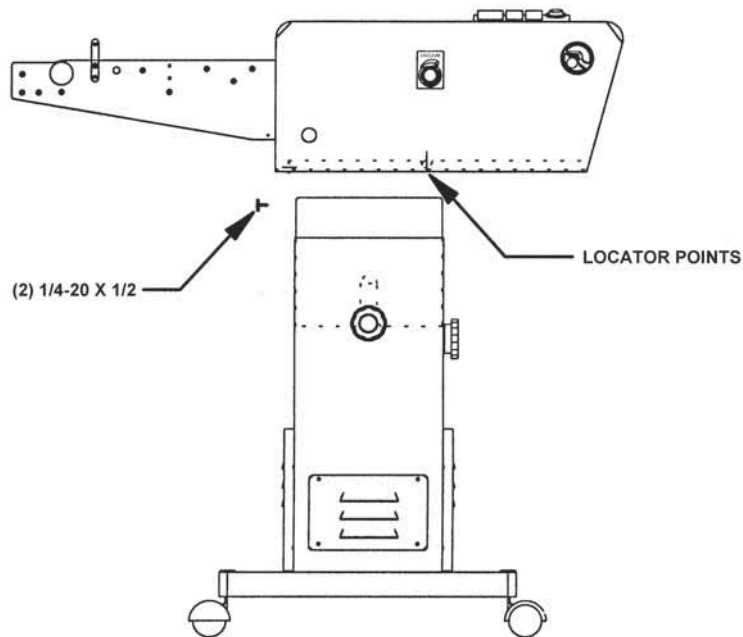

Figure 1
3. Place Feeder on top of Stand by locating two mating points on bottom of Feeder. **[Fig. 1]**
6. Install two (2) 1/4-20 x 1/2 inch thumbscrews provided in **Accessory Kit**.